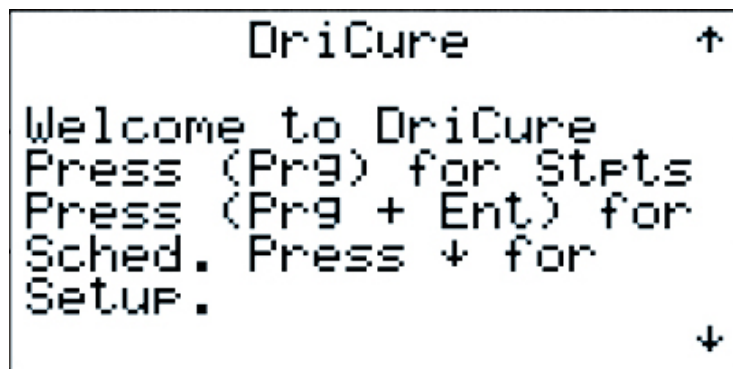

Figure 68
4.3.6 DriCure Setup (Figure 68)
Selecting DRICURE SCHEDULER from the first screen of the DriCure menu (Figure 68). This welcome screen will explain the keystrokes required to access the various screens in the DriCure subsystem. Press the **Esc** key to return to the Main Menu.